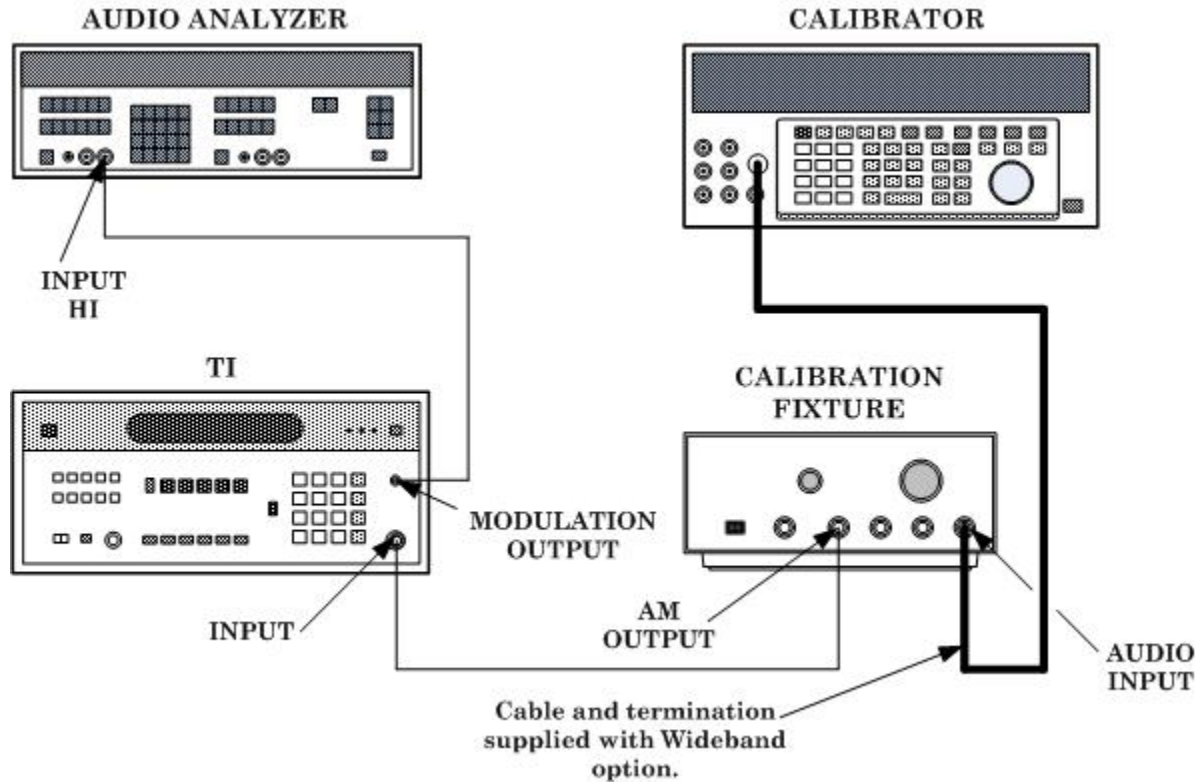

Figure 2. AM distortion - equipment setup.
- (1) Connect equipment as shown in figure 2.
- (2) Set calibrator for a wideband output of 20 kHz at an amplitude of 175 mV.
- (3) Position TI controls as listed in (a) through (c) below:
- (4) Adjust calibrator wideband output for a 50 percent AM indication on TI display.
- (5) Set audio analyzer to measure signal distortion with 80 kHz low-pass filtering. Distortion will be 0.3 percent or less.
- (6) Increase calibrator wideband output for a 95 percent AM indication on TI display. Measured distortion will be 0.6 percent or less.
(7) Adjust calibrator frequency to 20 Hz and adjust wideband output to maintain 95 percent AM indication on TI display. Measured distortion will be 0.6 percent or less.
(8) Decrease calibrator wideband output for a 50 percent AM indication on TI display. Measured distortion will be 0.3 percent or less.
- (1) Connect equipment as shown in figure 2, except connect calibration fixture **FM ÷ 4 OUTPUT** to TI **INPUT**.
- (2) Position TI controls as listed in (a) through (c) below:
- (3) Set calibrator for a wideband output frequency of 100 kHz at an amplitude of 370 mV.
- (4) Adjust calibrator output for a 100 kHz indication on TI display.
- (5) Measure distortion on audio analyzer with all filters off. If audio analyzer does not indicate 0.1 percent or less distortion, perform **b** below.
- (6) Adjust calibrator frequency to 10 kHz and output level for TI display equal to 100 kHz times calibration factor recorded in a **15 a** (2). (For example, if calibration factor in **15 a** (2) is 100.4 percent, set output level for display of 100.4 kHz.).
- (7) Adjust calibrator to frequencies listed in table 4. TI display will indicate within limits specified.